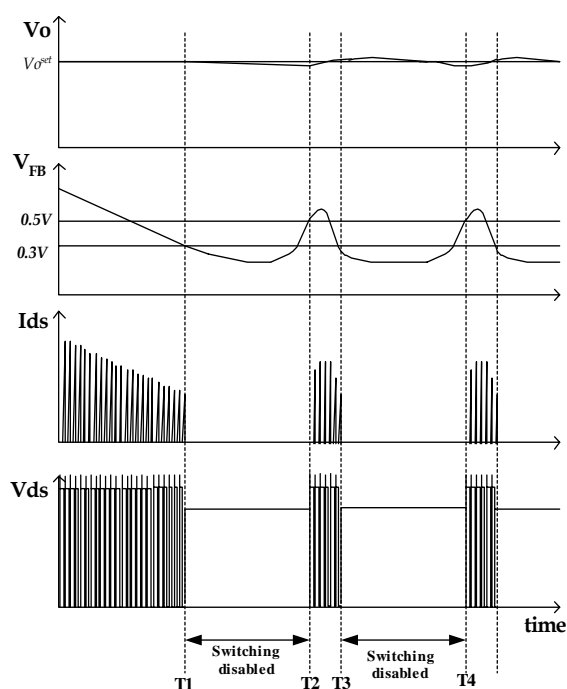

Figure 22. Waveforms of Burst Operation
6. Burst Operation: To minimize power dissipation in standby mode, the FSCM0765R enters into burst mode operation at light load condition. As the load decreases, the feedback voltage decreases. As shown in Figure 22, the device automatically enters into burst mode when the